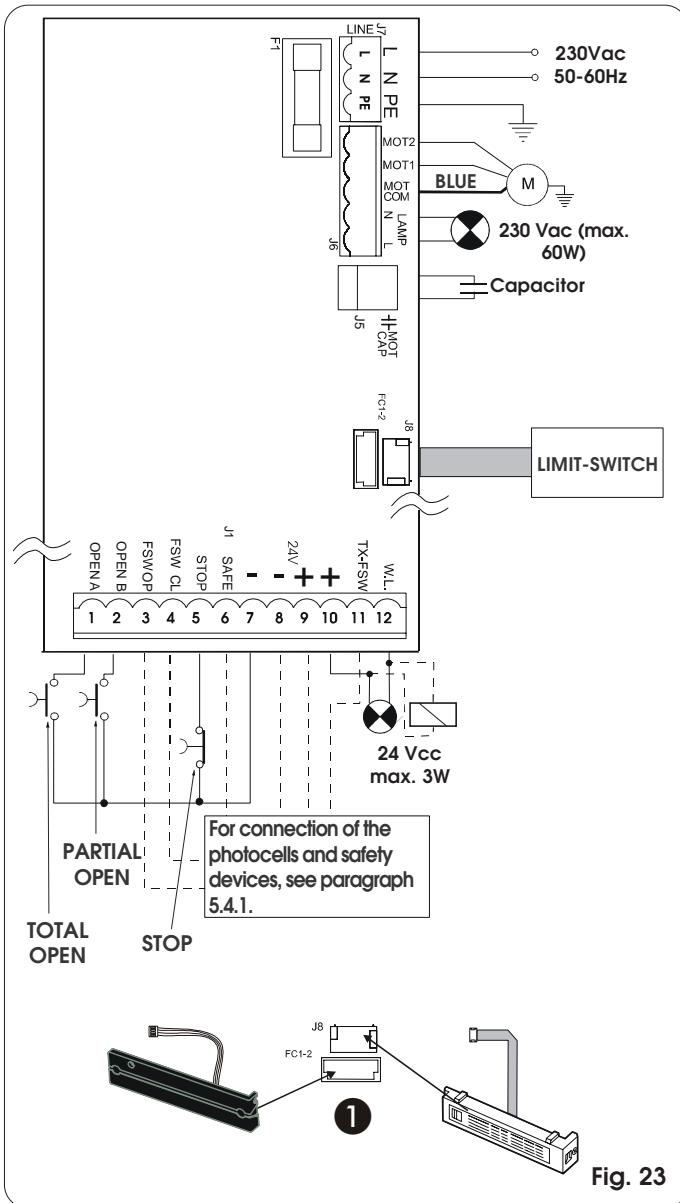

Fig. 23
5.4.2. J7 Terminal board - Power supply (fig. 23)
5.4.3. J6 Terminal board - Motors and flashing lamp (fig. 23)
5.4.4. J1 Terminal board - Accessories (fig. 23)
Quick-fit connector for connecting the limit-switch. For connecting both the MLS limit-switch and the inductive limit-switch (fig. 23 ref. ①) to the equipment.